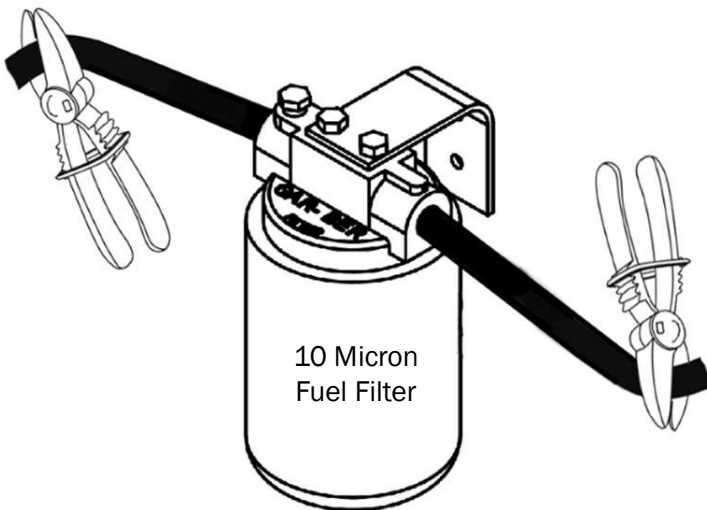

Figure 150
2. Using hose pinch off pliers, clamp off both fuel lines going to the fuel filter. Reference Figure 150.